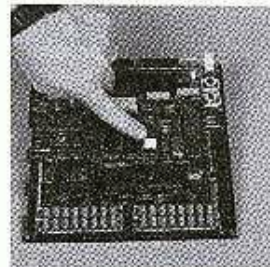

Figure 3-21
- b. Attach the rubber bumper to the main logic board as shown in Figure 3-21.